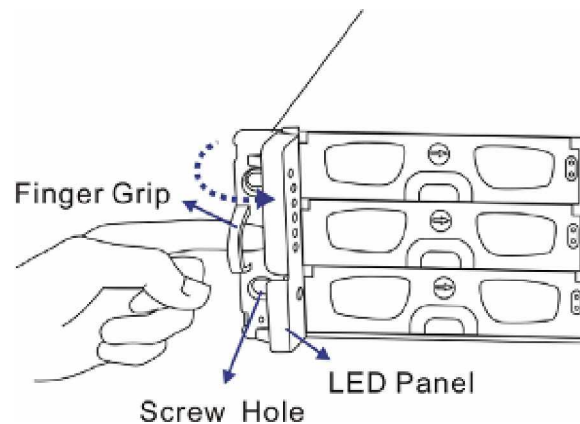
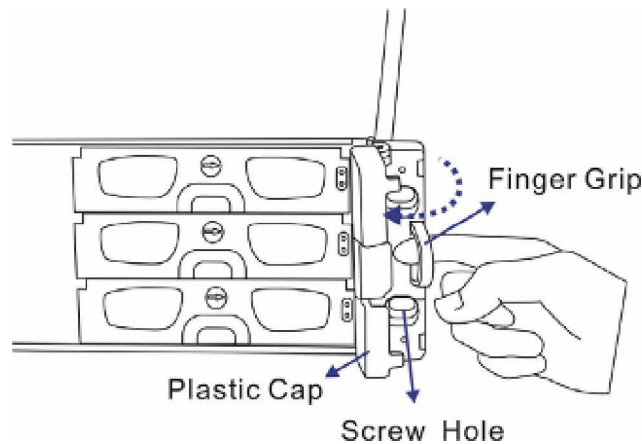

Figure 1-10: Accessing the Left Finger Grips
Figure 1-11: Accessing the Right Finger Grips
For a custom-made subsystem using LED panel management device, each subsystem enclosure has two (2) chassis ears on either side of the subsystem. Each chassis ear contains a finger grip, and two (2) screw holes. The left chassis ear, when face the subsystem front, is covered by the LED panel. A plastic cap conceals the right chassis ear. To access the finger grips, pressing the LED panel and the plastic cap toward to the center of the subsystem. (See **Figure 1-10** and **Figure 1-11**) This mechanical design allows more finger room for holding the subsystem into or out of the server rack. However, it is not recommended to use these finger grips to lift up subsystem.